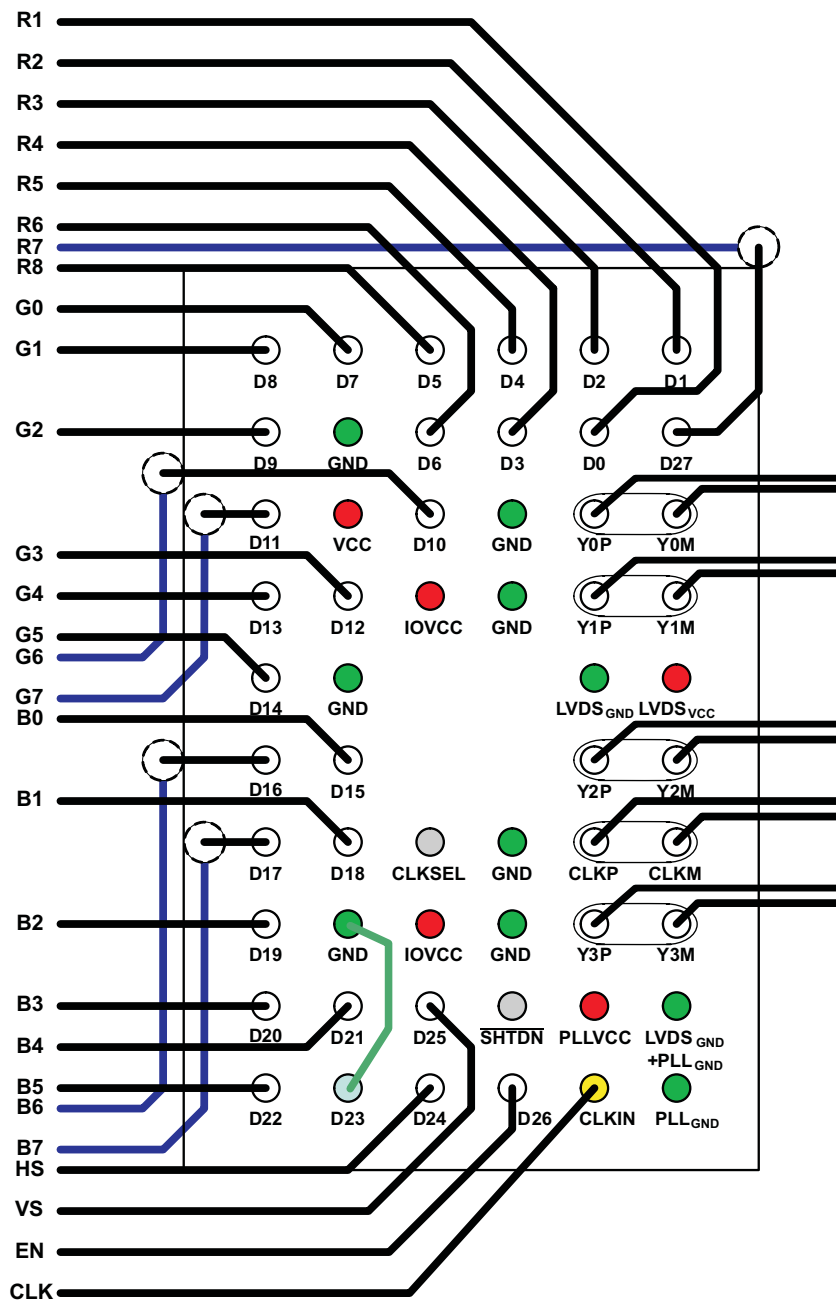

Figure 19. 24-Bit Color Routing (See Figure 14 for the Schematic)
Figure 19 and Figure 20 show a possible breakout of the data input and output signals from the BGA package.
• Changed <a href="#">Figure 19</a> - removed 3 GND pin locations. ....	<a href="#">21</a>
• Added connection between GND and D23 to <a href="#">Figure 19</a> .....	<a href="#">21</a>